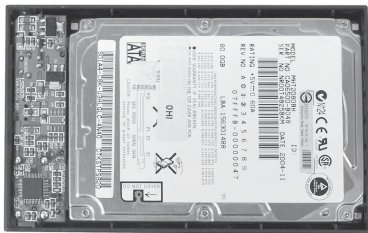

**Figure 5**
2. Take off the PCB and connect it to the hard disk drive, see **Figure 5** and **Figure 6**.